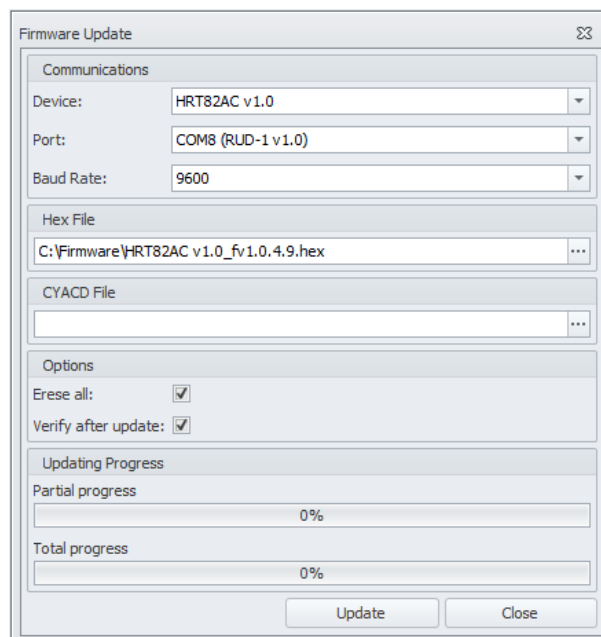

Fig. 9 Firmware update window in RogerVDM software
5. In the opened window select device, port with connected RUD-1 and specify path to firmware file (*.hex) – see fig. 9